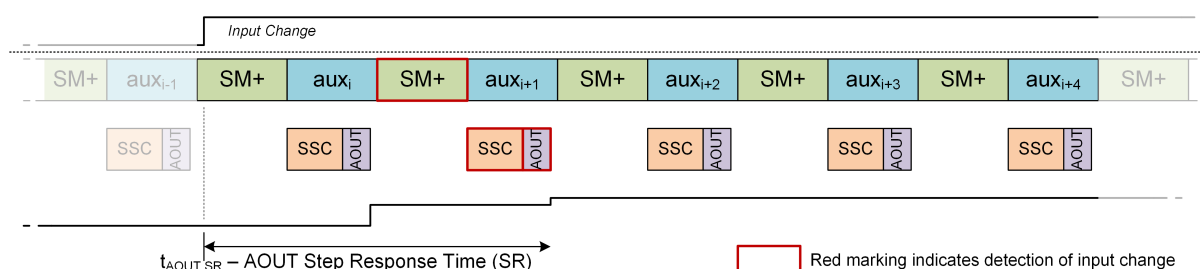

Figure 26: Measurement Flow and Latency for SM+/AZ Configuration
As shown in Figure 26, the worst-case latency consists of:
- SM+/AZ configuration: refer to Figure 26 and description for step response in subsection 4.6.4